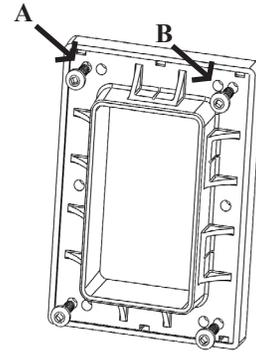
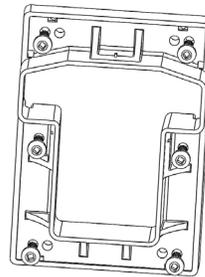

figure 3
figure 5
Attach bottom rail bracket first using one of the two holes provided in each of the four corner locations. Depending on the configuration of your vinyl post sleeve's support (wood 4' x 4" or post mount) choose the set of holes that provides the most secure attachment to that support. Secure to post using the (4) 1.5" screws provided. Be certain to use one screw in each corner of the bracket. *See figure 3.*
Attach the top rail in the same fashion as the bottom rail. Be certain your railing height at the top of the top rail meets your local code requirements before screwing into the post. *For 2x3.5" see figure 3, for T-rail you must use (6) screws. See figure 5.*